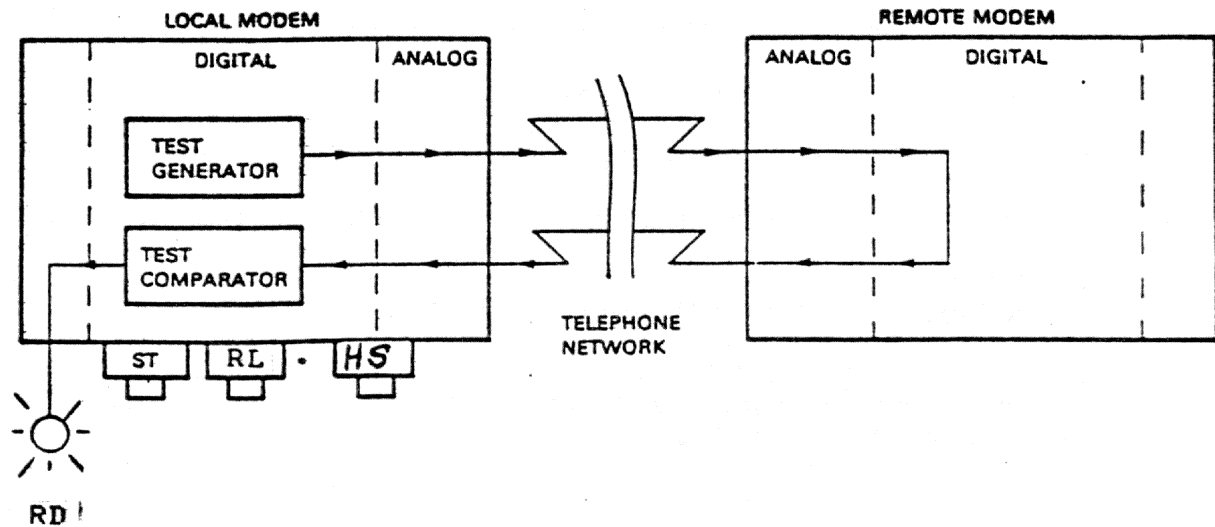

Figure 4-7 Remote Digital Loopback Selftest
4.4.2 Remote Digital Loopback Selftest (Figure 4-7)